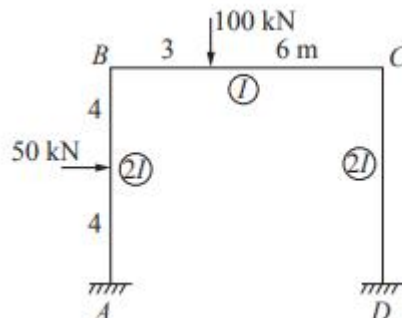

Fig. 2
4. Analyse the given frame shown in Fig.2 using moment distribution method and draw the bending moment diagram.